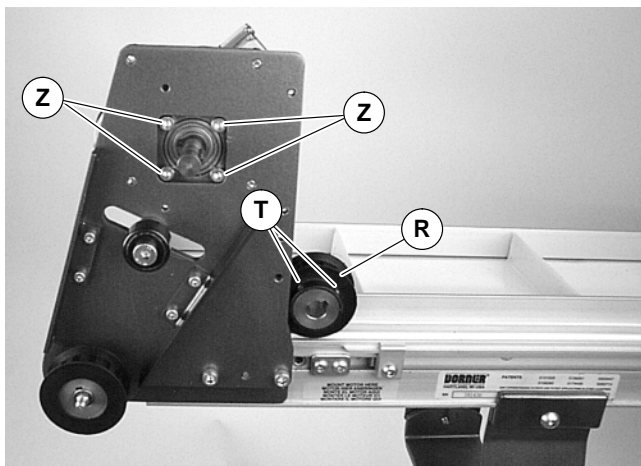

Figure 18
5. Loosen two (2) set screws (T of Figure 18). Remove drive pulley (R).
6. Remove four (4) screws (Z) and detach gearmotor.
7. Mount new gearmotor with four (4) screws (Z). Tighten to 5 Nm.
8. Replace drive pulley (R of Figure 18) and tighten set screws (T).